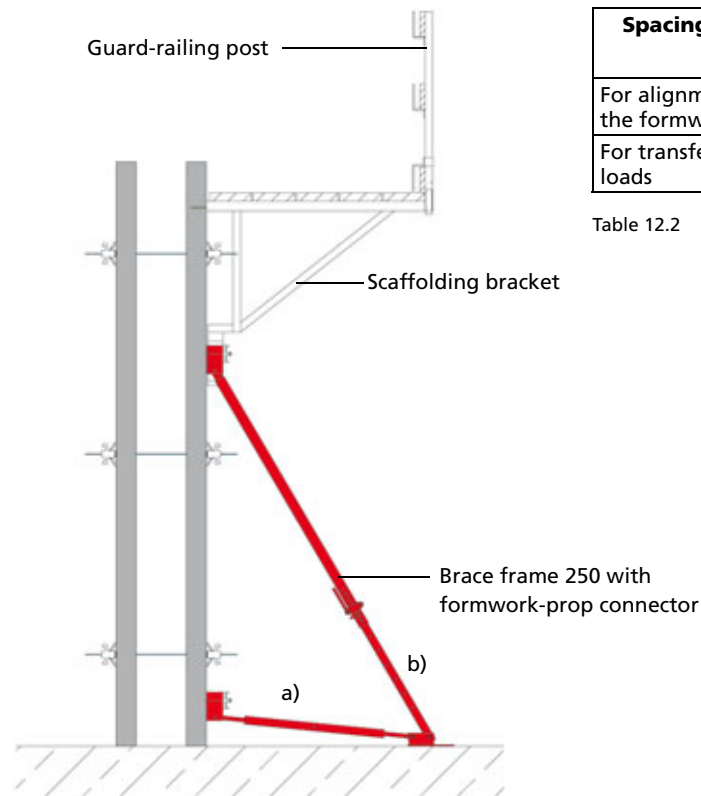

Fig. 12.1
Wall braces are attached to the multi-function profiles with formwork-prop connectors and flange screws 18 (Fig. 12.1). If they are used to align wall formwork, we recommend a max. brace spacing of 4.00 m. For transfer of wind loads a max. spacing of 2.50 m is recommended (Table 12.2). For further applications contact our technical department.
■ The formwork height and the length of the push-pull props should be identical. The angle between a) and b) – see fig. 12.1 – should be less than 60 degrees.